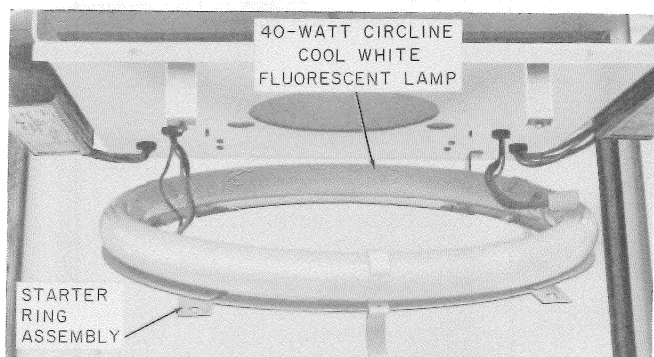

Fig. 14—Installing Lamp on Starter Ring Assembly
- (m) Install one of the lamps, removed in (a), on starter ring assembly (Fig. 14).